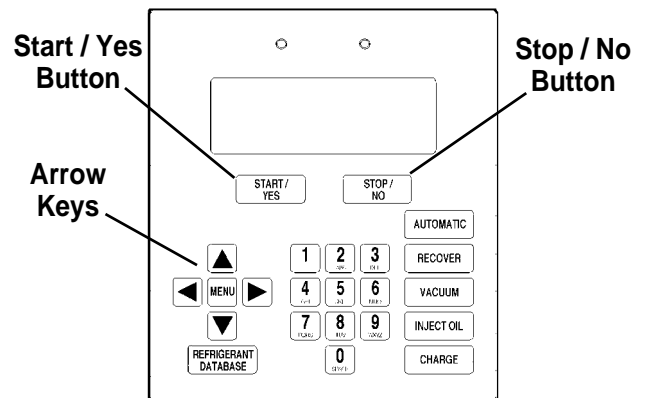

Figure 2
1. Use the **UP** or **DOWN** arrow key to toggle through the choices for English, Spanish, or French. Refer to Figure 2.